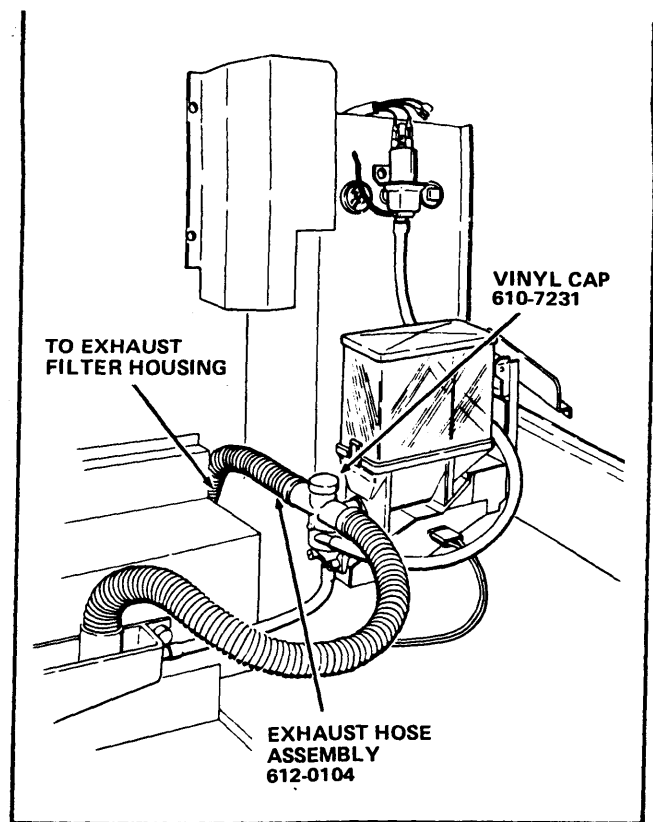

FIGURE 6. 611 WITH TEA
- b. On 611 Merchandisers equipped with tea, remove the Mixing Bowl Exhaust Hose from the Exhaust Filter Housing and connect it to the Mixing Bowl Vent. See Figure 6.